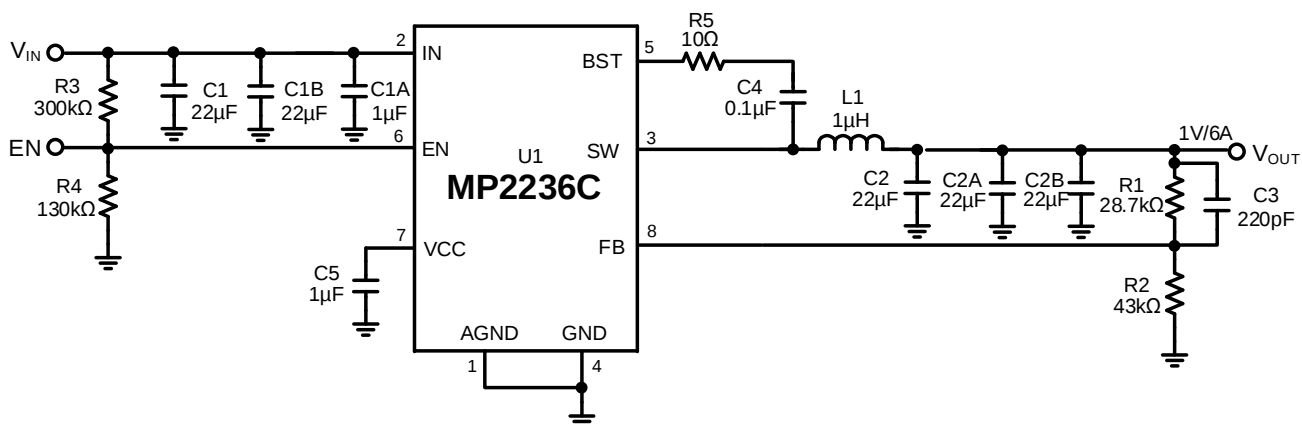
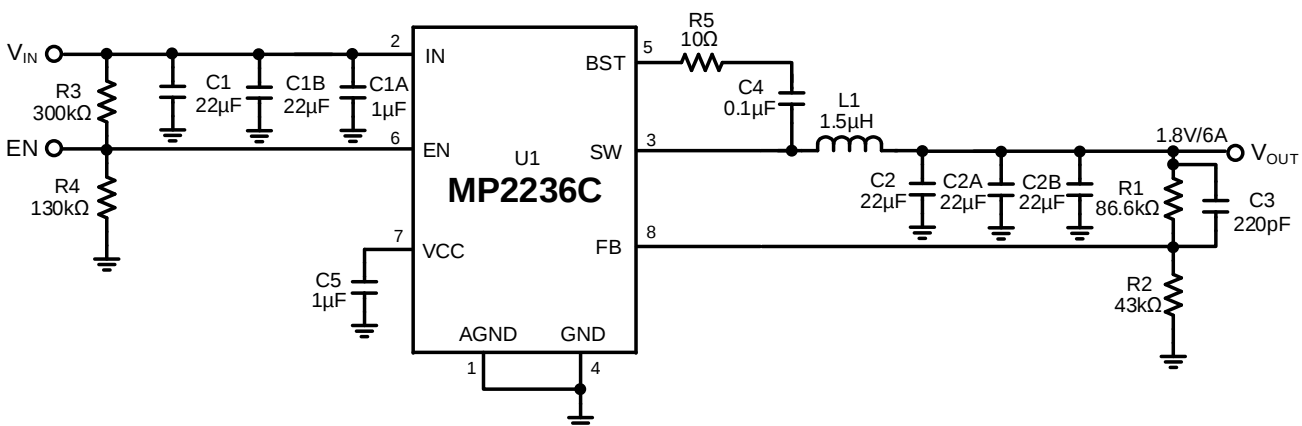
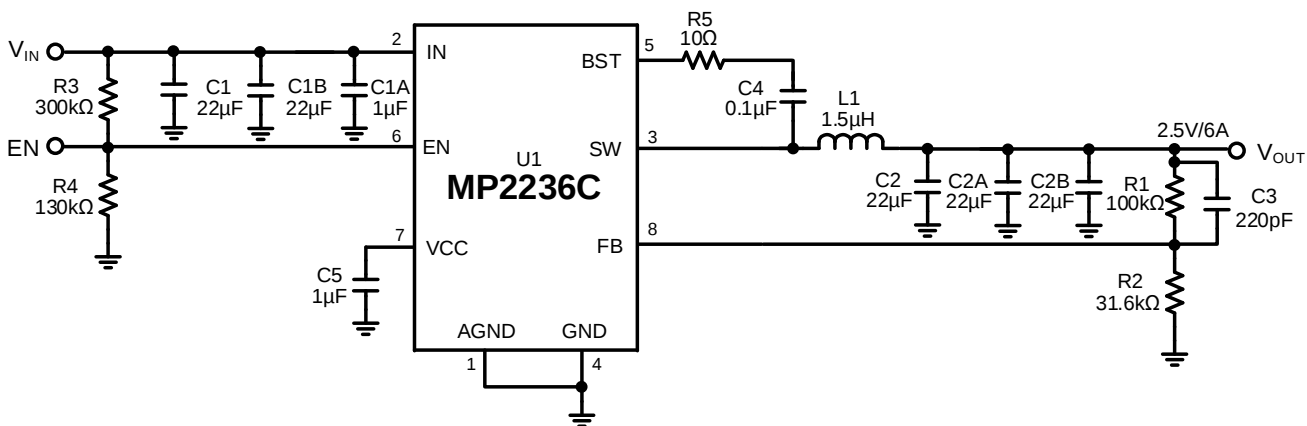
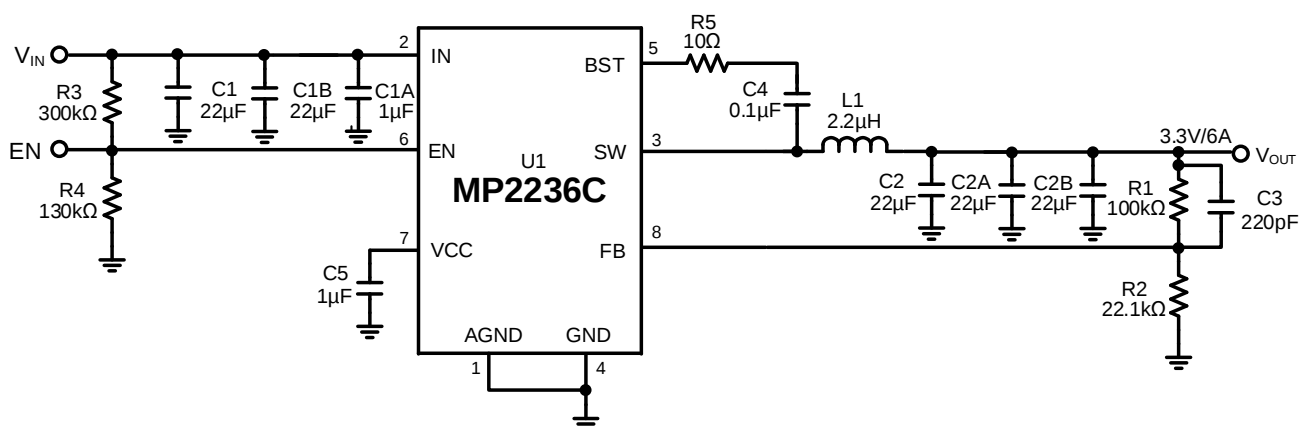

Figure 6: Typical Application Circuit (12V V_{IN} , 1V/6A Output)
Figure 7: Typical Application Circuit (12V V_{IN} , 1.8V/6A Output)
Figure 8: Typical Application Circuit (12V V_{IN} , 2.5V/6A Output)
Figure 9: Typical Application Circuit (12V V_{IN} , 3.3V/6A Output)
For the detailed application schematics, see Figure 6, Figure 7, Figure 8, Figure 9, and Figure 10 on pages 17 and 18. For the typical performance and circuit waveforms, see the Typical Performance Characteristics section on page 8. For more device applications, refer to the related evaluation board datasheets.
- 9) The recommended layout is based on the Typical Application Circuits shown in Figure 6, Figure 7, Figure 8, Figure 9, and Figure 10 on pages 17 and 18.